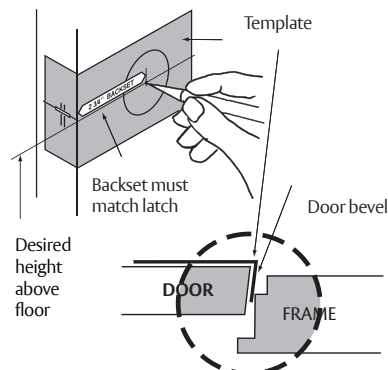

Figure 1
1. Use template A8290 to mark the door (See Figure 1).